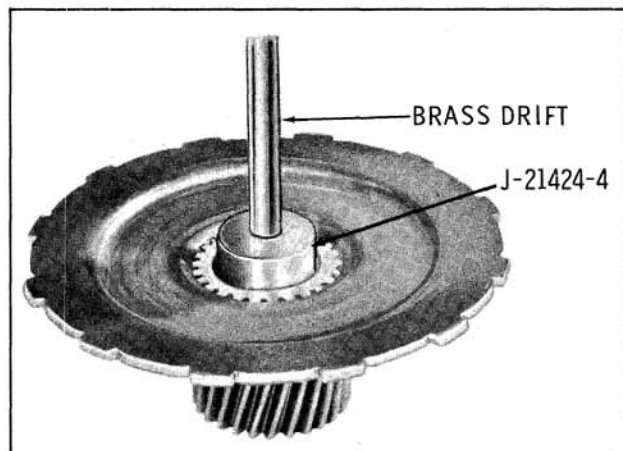

Fig. 6-440 Removing Low Sun Gear and Flange Assembly Bushing
13. Check low sun gear and flange assembly bushing for nicks, severe scoring, or wear. If bushing replacement is necessary, proceed as follows: Support flange assembly on wood blocks, use Tool J-21424-7 and brass drift to tap out bushing. (Fig. 6-440)